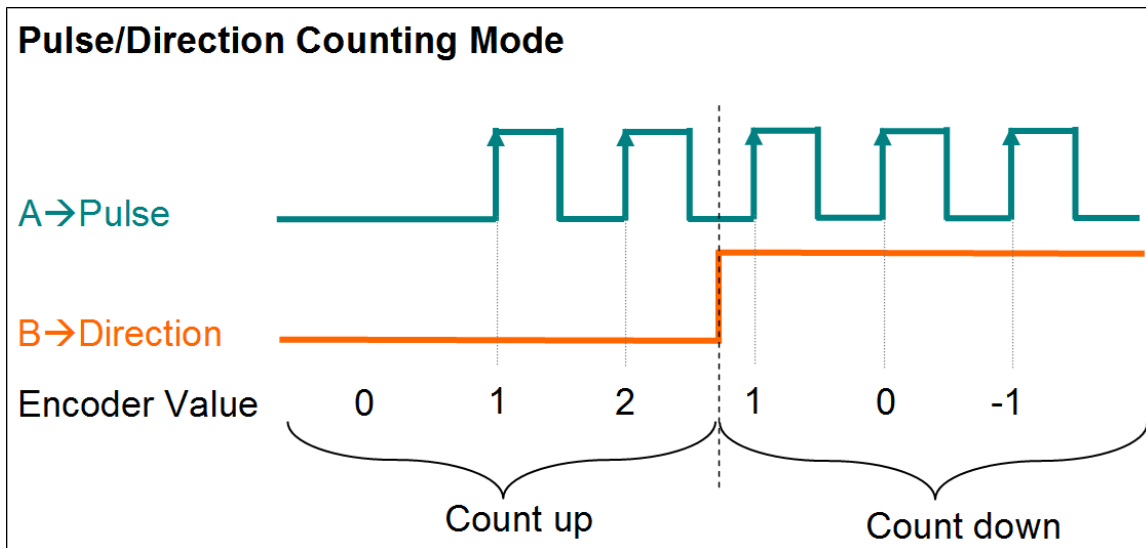

Figure 23: Pulse/Direction counting mode
In the **pulse/direction counting mode** (Figure 23) one input signal line is being used to indicate the position and a second one indicates the direction of motion, either forward or reverse. The "A" signal serves as the counter input and the "B" signal serves as the direction input (B = high: enables up count; B = low: enables down count). The ECAT-2093 counts the rising or falling edges of the "A" signal pulses and the "B" signal determines the direction of the count and decides whether to increment or decrement the counter. On every active input signal "A" the position counter is incremented by one when the direction input "B" signal is high and decremented by one when the direction input "B" is low.
- By changing the signal "B" polarity which indicates the direction for the pulse/direction counting mode (Figure 23) the counting direction will change.